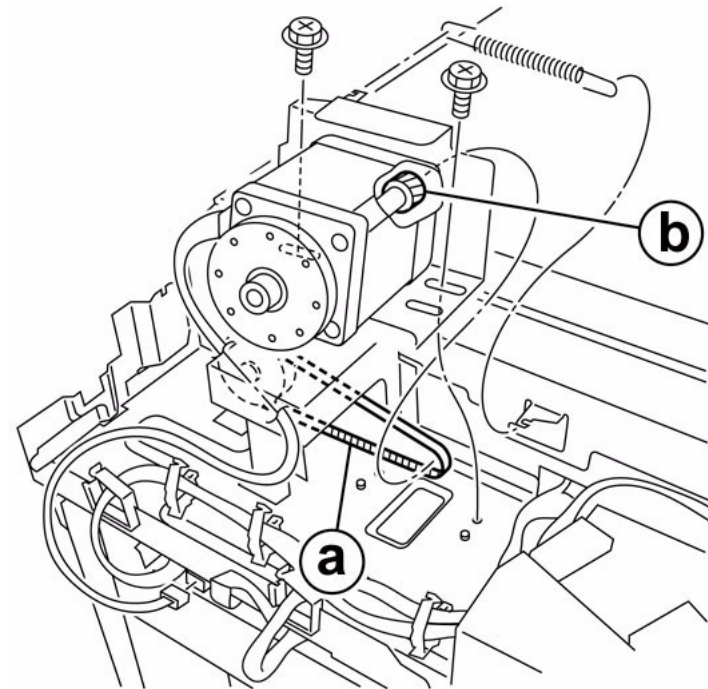

Figure 3 Carriage Motor Belt and Pulley
2. Route the Pulley on the Belt when installing the Carriage Motor. Figure 3